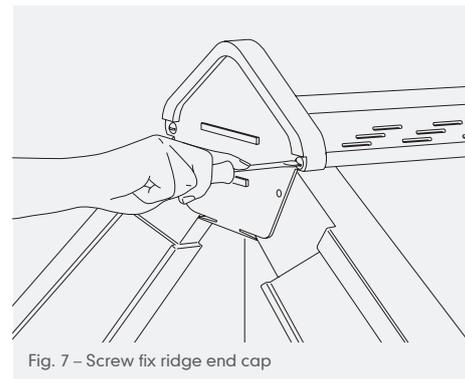
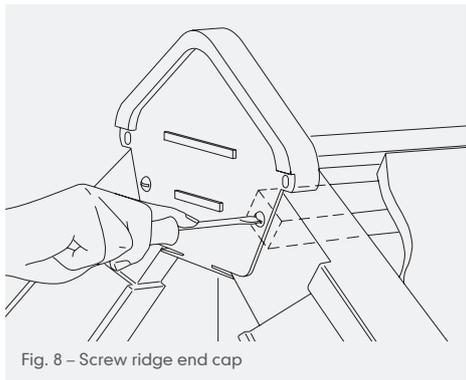
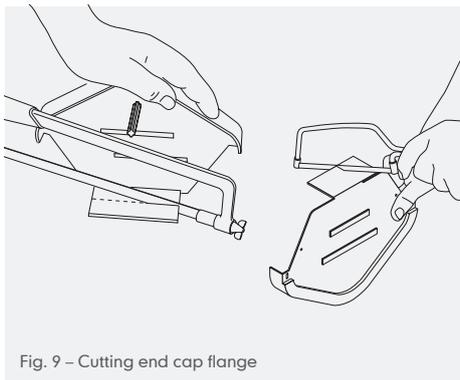

Fig. 7 – Screw fix ridge end cap
Fig. 8 – Screw ridge end cap
Fig. 9 – Cutting end cap flange
14 If required, trim flange of ridge end cap to fit between top course verge units (Fig. 9, page 149). Screw ridge end cap to end of dry ridge batten locating 25mm x 8g stainless steel screws into end of circular beads on upper flange (Fig. 7).
- 16 If required, trim flange of ridge end cap to fit between top course verge units (Fig. 9). Screw ridge end cap to top course verge unit, locating stainless steel screws through lower, partly formed fixing holes (Fig. 8).